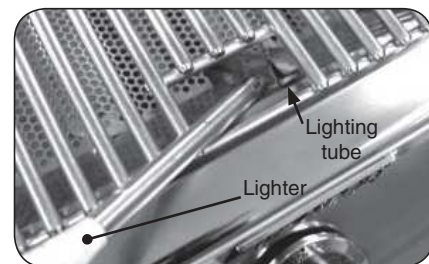

Fig. 15-2 - Manual lighting
**CAUTION:** Always wait five (5) minutes for gas to clear after any unsuccessful lighting attempt.
2. Insert either a burning long-barrel butane lighter or a burning long-stem match through the cooking grid opening to the top of the lighting tube. (Fig. 15-2). For backburners, hold the flame against the surface of the backburner. For charcoal burners, hold the flame near the burner.
4. If the burner does not light, **immediately depress the knob and turn the valve to OFF**. **WAIT FIVE (5) MINUTES** before repeating steps 2 through 4 of the **MANUAL LIGHTING** instructions.